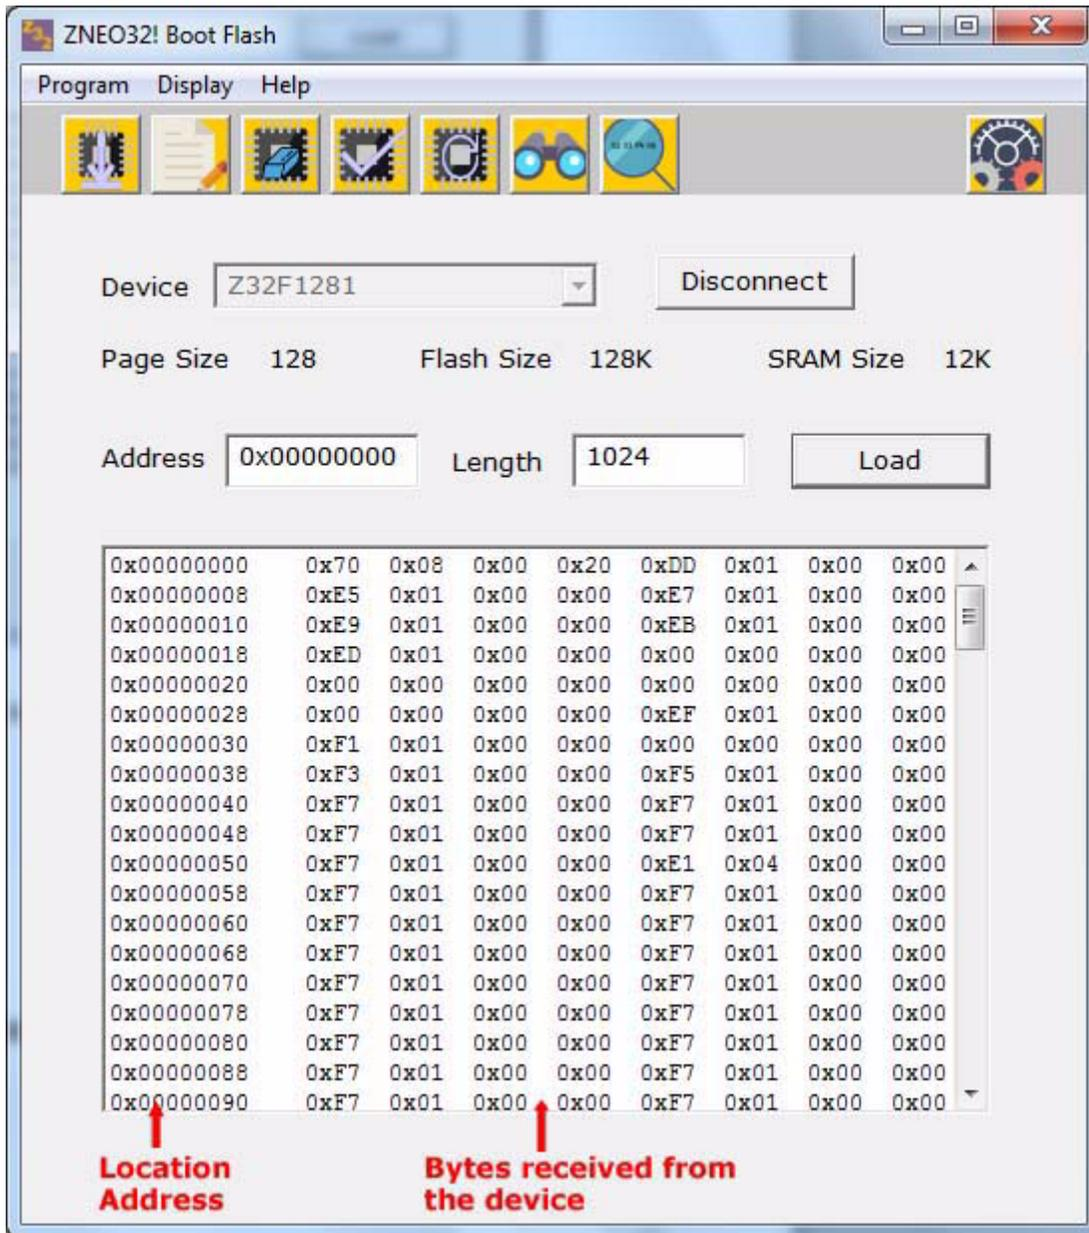

Figure 29. Display Address Results
2. The results are displayed on the screen shown in Figure 29.